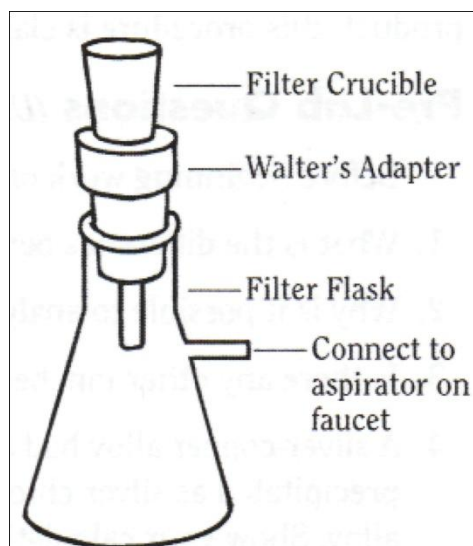

Figure 1. Filter flask with crucible and adapter.
1. To filter the solution, either a Gooch crucible or a sintered glass filter crucible will be used with a filter flask. Refer to Figure 1 to see how the crucible, Walter's adapter, and filter flask are assembled.